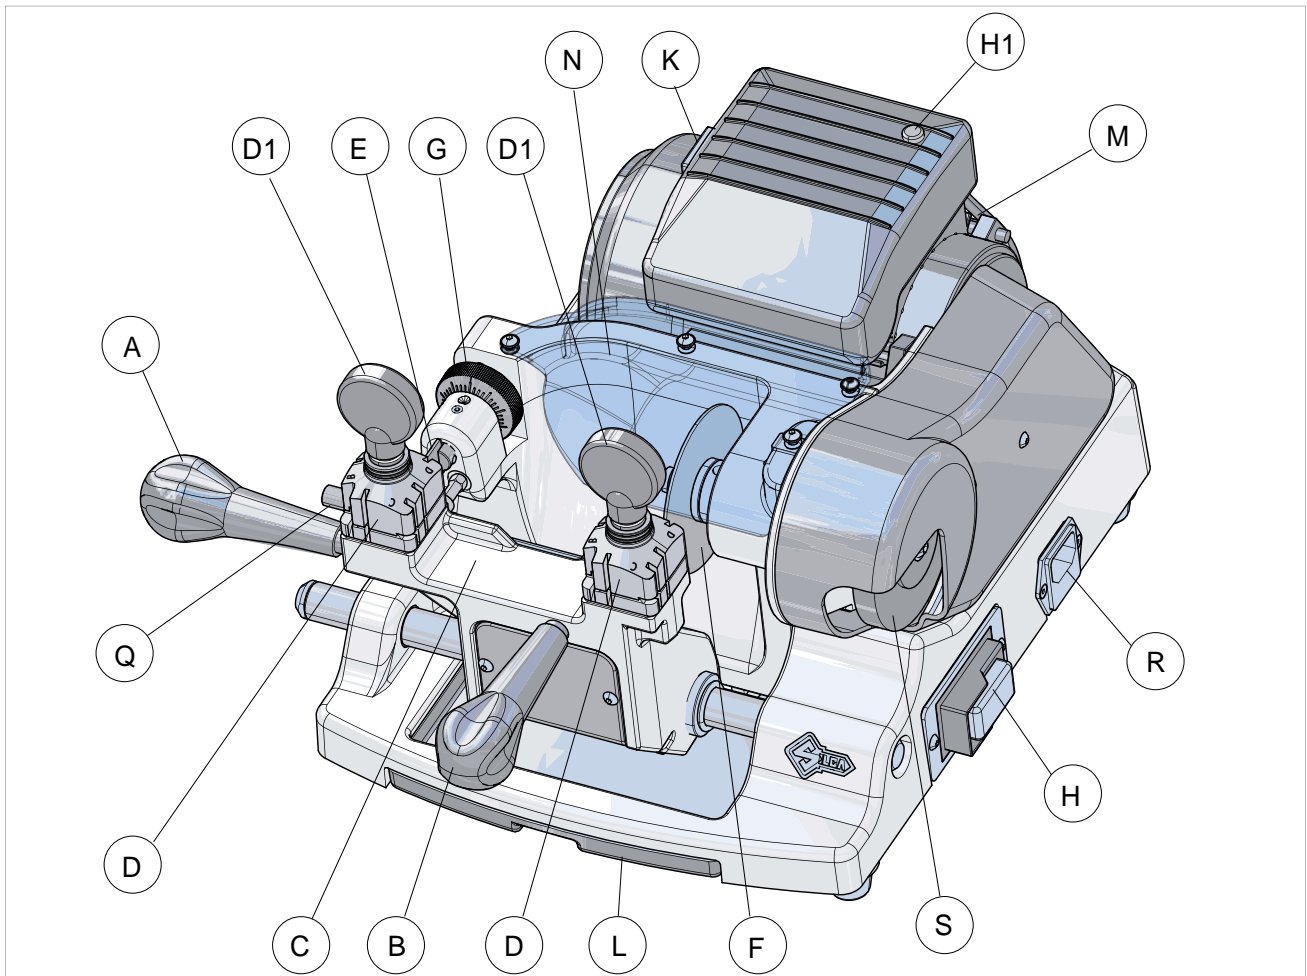

Fig. 4
Motor transmission takes place by belt. On the right-hand side of the motor there is the transmission shaft which moves the cutting tool (F) and the brush (S) (see Fig. 4). These components are protected by: cutting tool cover (N), brush cover (P).